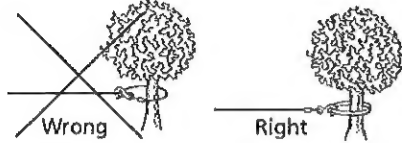

Figure 4
9. It is a good idea to lay a heavy blanket or jacket over the wire rope near the hook end when pulling heavy loads (Figure 4). If a wire rope failure should occur, the cloth will act as a damper and help prevent the rope from whipping. Raise the hood of the vehicle for added safety.